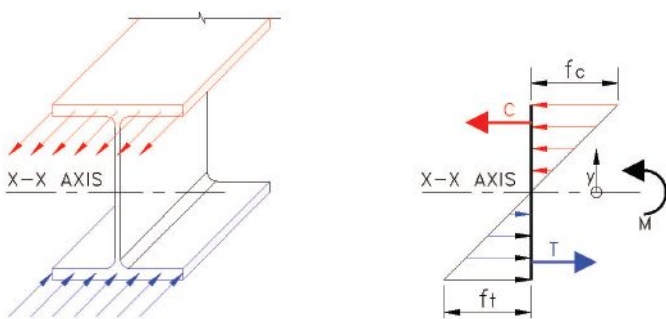

Fig. 2. Stage A: elastic stresses.
**Stage A: elastic stresses.** If we examine our simply supported beam with a small external load, we notice that no portion of the cross section has reached the yield stress. As shown in Figure 2, the beam acts as an ideal truss, with the top flange in compression and the bottom flange in tension. The elastic flexural stresses shown are normal to the cross section and can be determined in accordance with the usual elastic assumptions: